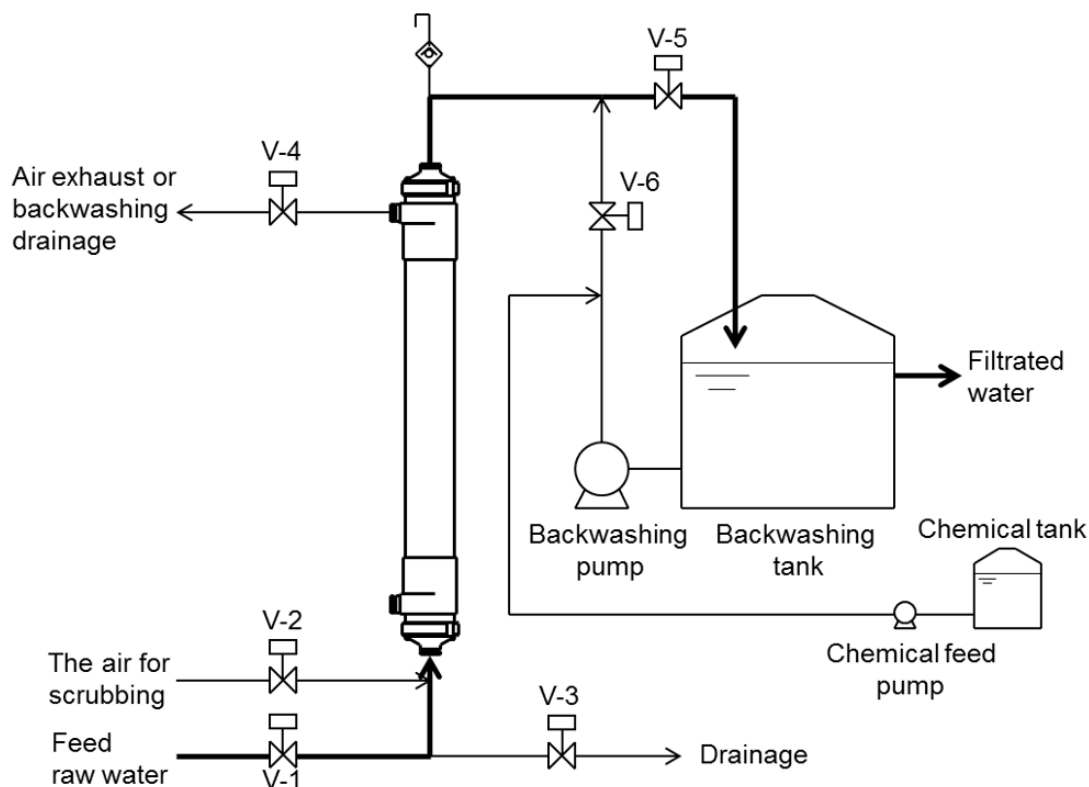

Fig. 4. Typical example of membrane pipe connection
5. Connect the piping to each connection point of the module with Housing type joints (HFUG-2020HN) (see Fig. 4). The maximum fastening power of the Housing type joints should not exceed 40 Nm. When you tighten or loosen the Housing type joints, make certain to maintain sufficient space prior to the work and be careful not to injure one's
- (1) Check that all piping is connected appropriately and flushed out prior to the operation. Fig. 4 shows a typical example of membrane pipe connection.